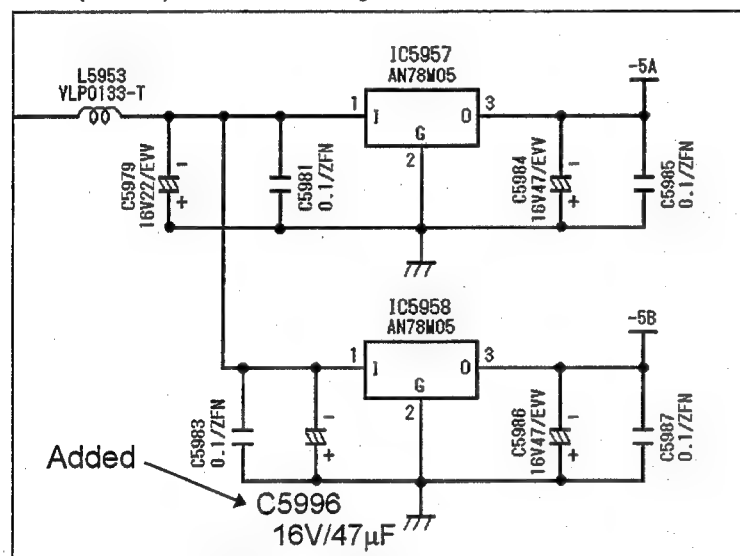

Fig. 3 Page 2-173 (E-7) - AJ-D750
- 2). Add a capacitor C5996 (16V/47 $\mu$ F) between terminals G (plus side) and I (minus side) of IC5958 on the component side as shown in figures 3 and 4.